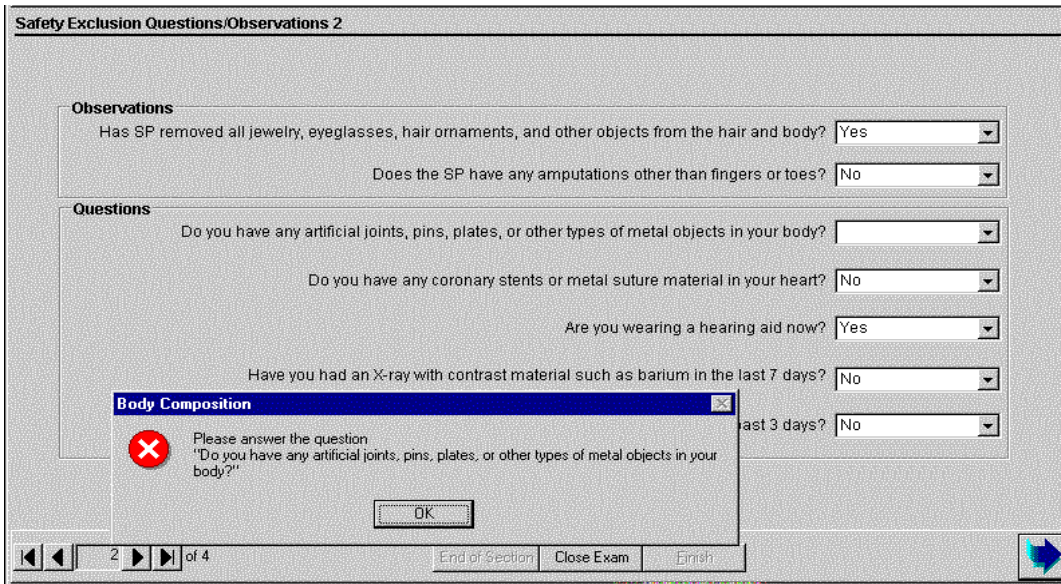

Figure 4-22. Safety/exclusion questions (required entry)
- If the Next button is pressed before all the questions are answered, a message will be displayed reminding you to answer the question. See Figure 4-22.